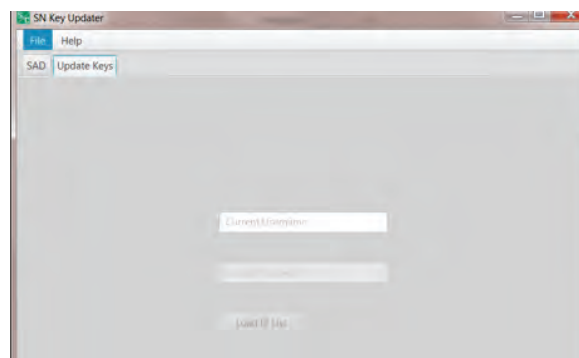

Figure 54. Username and Password dialog box.
STEP 34. Enter username and password. See Figure 54.